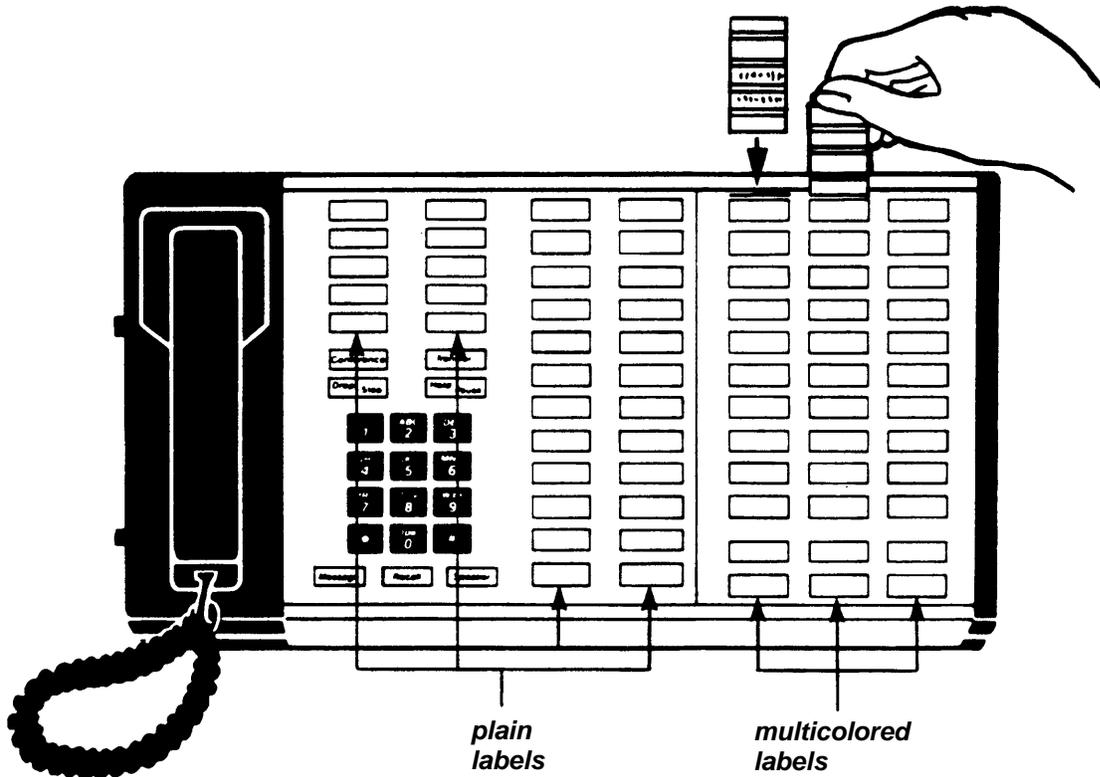

Figure 12.
1. Refer to Figure 12 to see which labels go with which columns.
2. Insert the bottom of the label into the label slot above each column of touch-sensitive buttons (see Figure 12).
1. Grasp the silver tab above the touch-sensitive buttons and pull the label out of the label slot (see Figure 12).